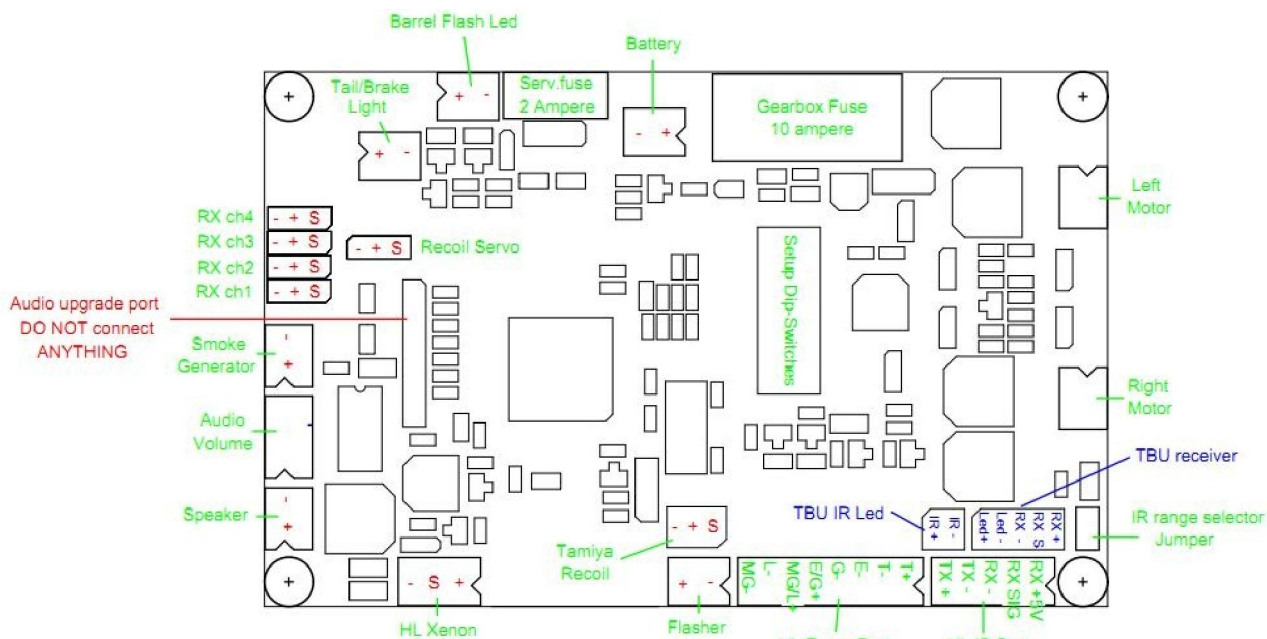

Fig. 2a - Layout of the IBU2 Base version
- Fig. 2a Layout of IBU2 Base version